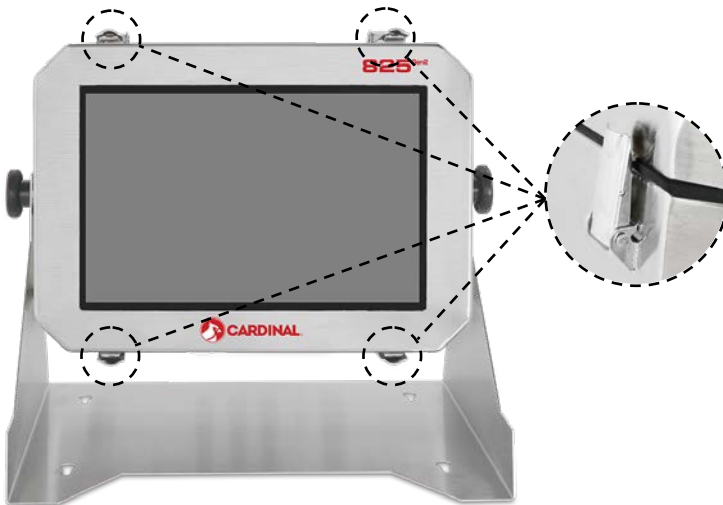

Figure No.3
1. Referring to Figure No. 3, unsnap the four draw latches (two on top and two on bottom) securing the front display panel to the rear enclosure and then lower the hinged front display panel. See Figure No. 4.
1. If the front panel of the indicator has been lowered, proceed to step 2. Otherwise, referring to Figure No. 3, unsnap the four draw latches (two on top and two on bottom) securing the front display panel to the rear enclosure and then lower the hinged front display panel. See Figure No. 4.